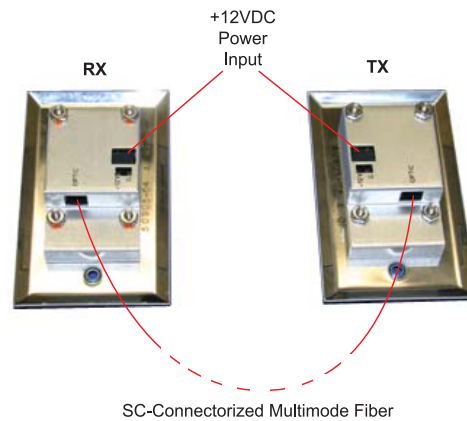
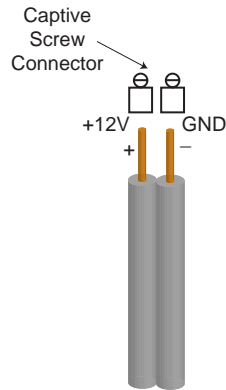

Figure 2-3
Figure 2-5
3. Connect the fiber from one unit to the other connecting the near end Mini-DVI-WP-T unit's optical port to the far end of the Mini-DVI-WP-R unit's optical RX port as illustrated in Figure 2-3.
The standard option to connect a power source is a +12VDC, which is used when power source is farther away (see Figure 2-3). In order to make sure that you have a proper installation, please observe the following:
2. Terminated fiber with SC optical connector to be directly plugged into the SC connector port of the Mini-DVI-WP units (see Figure 2-3).
3. Before connecting power wire to the Mini-DVI-WP unit, **make sure power supply is off**. Prepare the Positive (+12V) and Negative (GND) tip of the power wire as shown in Figure 2-5 to be directly plugged into the captive screw +12VDC connector of the Mini-DVI-WP units (see Figure 2-3). Make sure the polarity of the connection is correct. Insulate any exposed wire shields to prevent short circuits.